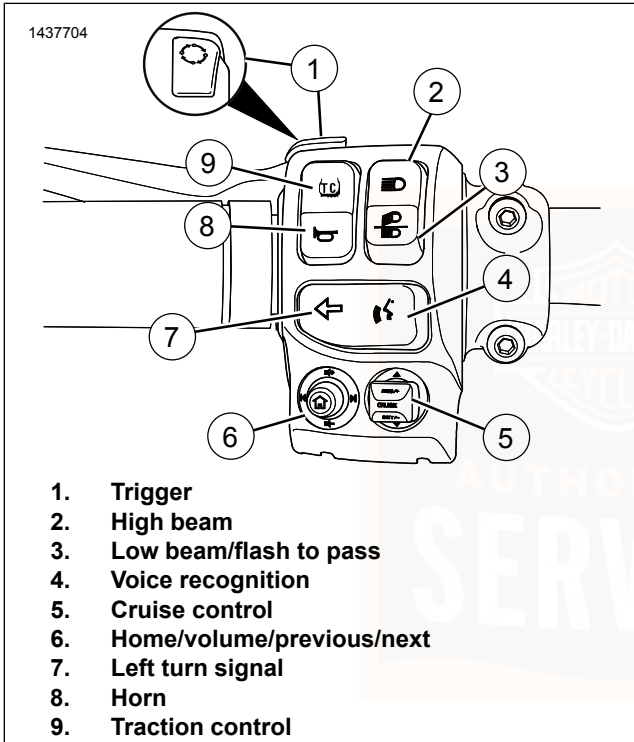

Figure 25. Left Hand Switch Module (typical)
See Figure 25. **Vehicle off:** Press the trigger switch (1) to display the accumulated mileage in the odometer. **Vehicle in accessory/ignition mode:** Press the trigger switch to cycle through the odometer functions. Refer to Table 34.
See Figure 25. Press the high beam switch (2) to activate the high beam. The (blue) high beam indicator lamp is lit when the high beam is on. Refer to Table 34.
Low beam: See Figure 25. Press the bottom of the low beam/flash to pass switch (3) to activate the low beam.
See Figure 25. The voice recognition switch (4) activates the voice recognition features on equipped vehicles. With a headset connected, press the voice command switch. The radio shows a list of available commands. Speak the desired command into the headset microphone. See the BOOM! BOX OWNER'S MANUAL.
See Figure 25. The cruise control (5) switch is used to operate cruise control on equipped vehicles. See Cruise Control (Page 101) for detailed operation.
See Figure 25. The HOME/VOLUME/PREVIOUS/NEXT (6) five-way switch operates radio features on equipped vehicles. See the BOOM! BOX OWNER'S MANUAL.
Activate: See Figure 25. Press the left turn signal switch (7) to activate the left turn signal. Refer to Table 34.
See Figure 25. The horn is operated by pressing the horn switch (8). The horn can be activated for up to 10 seconds at a time. If the horn switch is held for a longer period, the horn automatically deactivates. Refer to Table 34.
See Figure 25. The traction control switch (9) activates and deactivates the traction control system and switches traction control modes on equipped vehicles. Refer to Table 34.
The trigger switch is located on the front of the left hand control. See Figure 25.